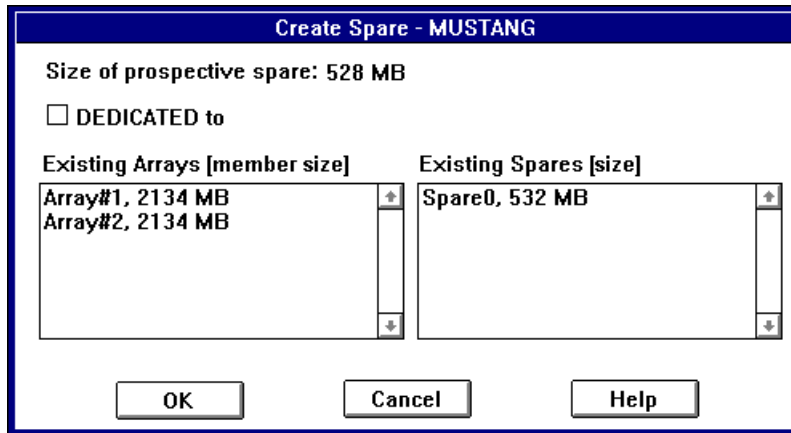

Figure 4-6. Create Spare Dialog Box
- 3 Click **Create Spare...** The Create Spare dialog box appears, as shown in Figure 4-6. A list of already-defined spares appear on the right. Names of existing arrays appear on the left only if the disk you selected is large enough to protect that array as a spare.